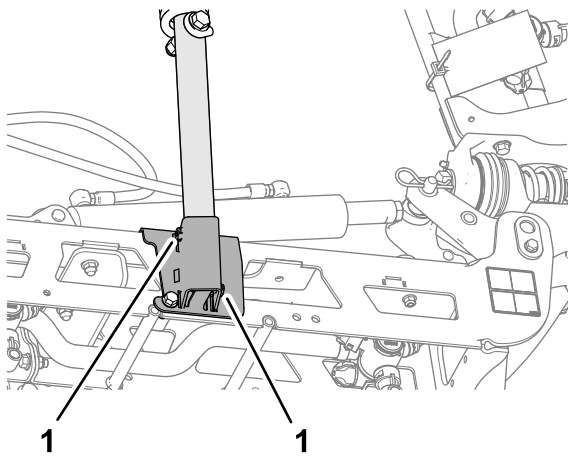

Figure 104
3. Loosen the 2 setscrews that secure the lower cradle tube (Figure 104).